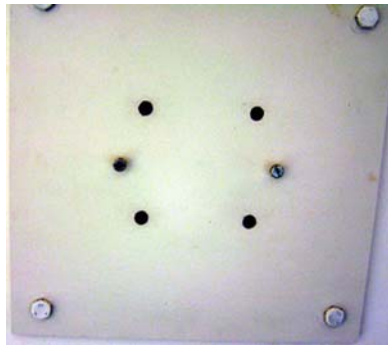
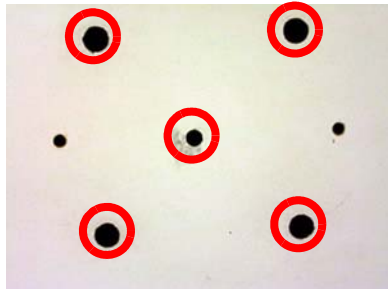

Figure 2-1 New Ceiling Plate
Figure 2-2 Mounting Plate (5 mounting holes are circled)
- 3.) Five (5) mounting holes are required to install this new pedestal to the ceiling mounting plate. Four (4) M12 with flat washers, lock washers, and hex nut are used. One M8 is used to anchor the safety chain bracket assembly. See Figure 2-1 and Figure 2-2.